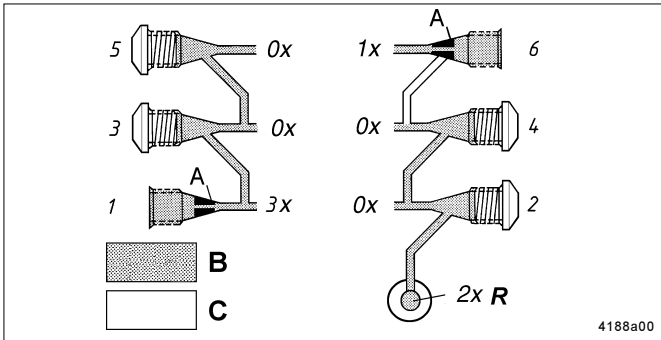

Fig. 4 - Internal feedback of supplied lubricant, only on back-side mounted SSV divider blocks (up to serial No. 998000099C/001)
- All pumps with the **back mounted SSV divider block**, have the capability to feed back unused lubricant from closed outlets directly to the reservoir internally (see R Fig. 4, 5).
- The pumps up to serial No. 998000099C/001\* and pre serial numbers 9910006711/004\* have capability to feed back the lubricant directly to the reservoir only from even outlets, see Fig. 4. For instance on a SSV 6 divider block, the outlets 2, 4, 6 are closed.